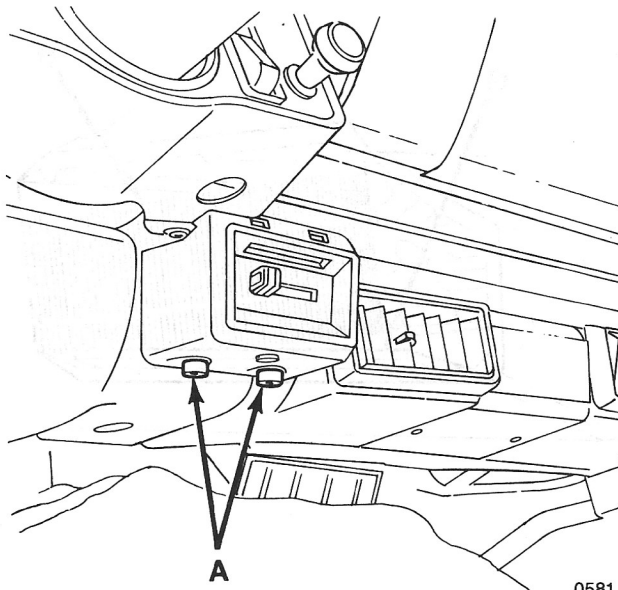

Fig. 3
1. Remove the 4WD Selection Switch mounting screws (A) and lower the switch housing (Fig. 3).